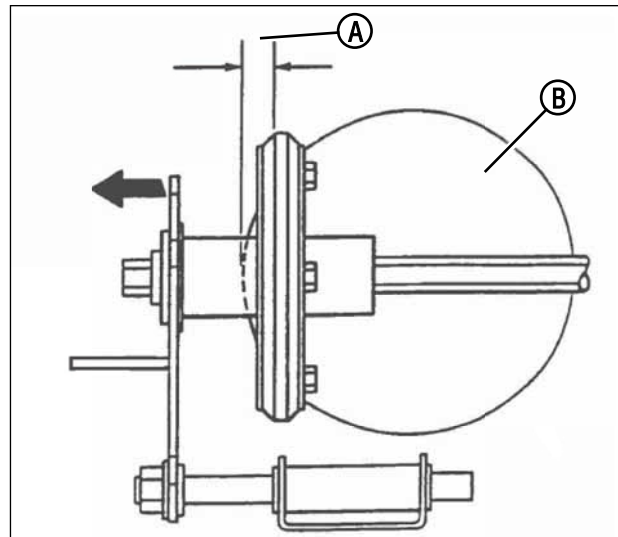

Figure 27: Proper driven disc adjustment
3. Slide the driven disc assembly over to 1/8" (A, Figure 27) from the outside edge of the drive disc (B).